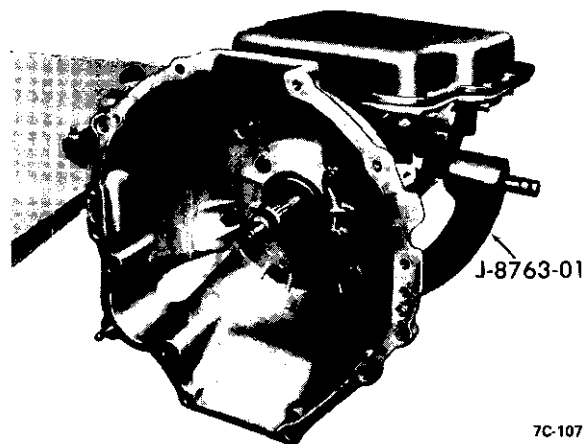

Figure 7C-107
4. Install holding fixture and transmission into holding base tool J-3289-20 with bottom pan up. See Figure 7C-107. Do not overtighten.